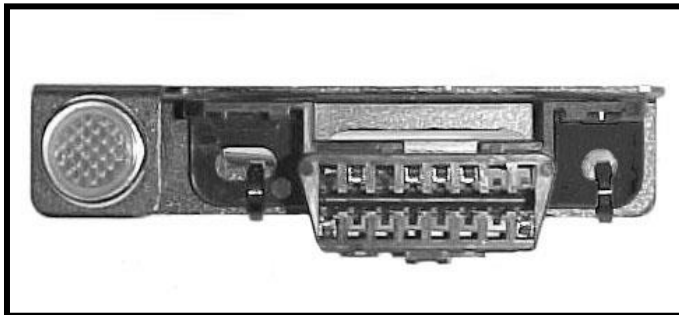

Figure 4 Data Link Connector
- The light should illuminate when the ignition is in the “On/Run” position and during engine ranking. If the light is on, while the engine is running, the ECM has thrown a code which may or may not affect drivability. **See Figure 4**